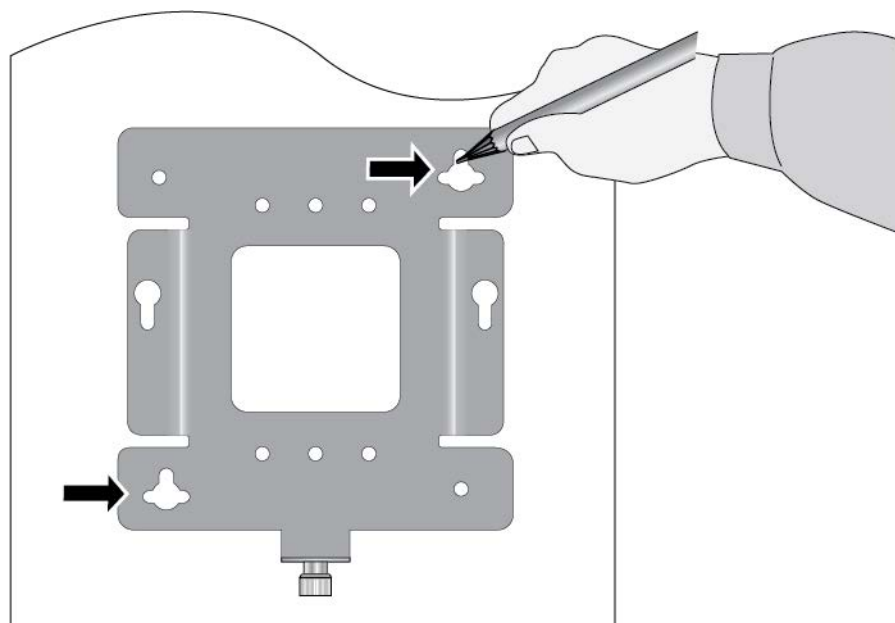

Figure 18. Marking the Holes for the Key-Hole Slots
3. With a pencil, mark the wall or ceiling with the two key-hole slots of the bracket. Refer to Figure 18.